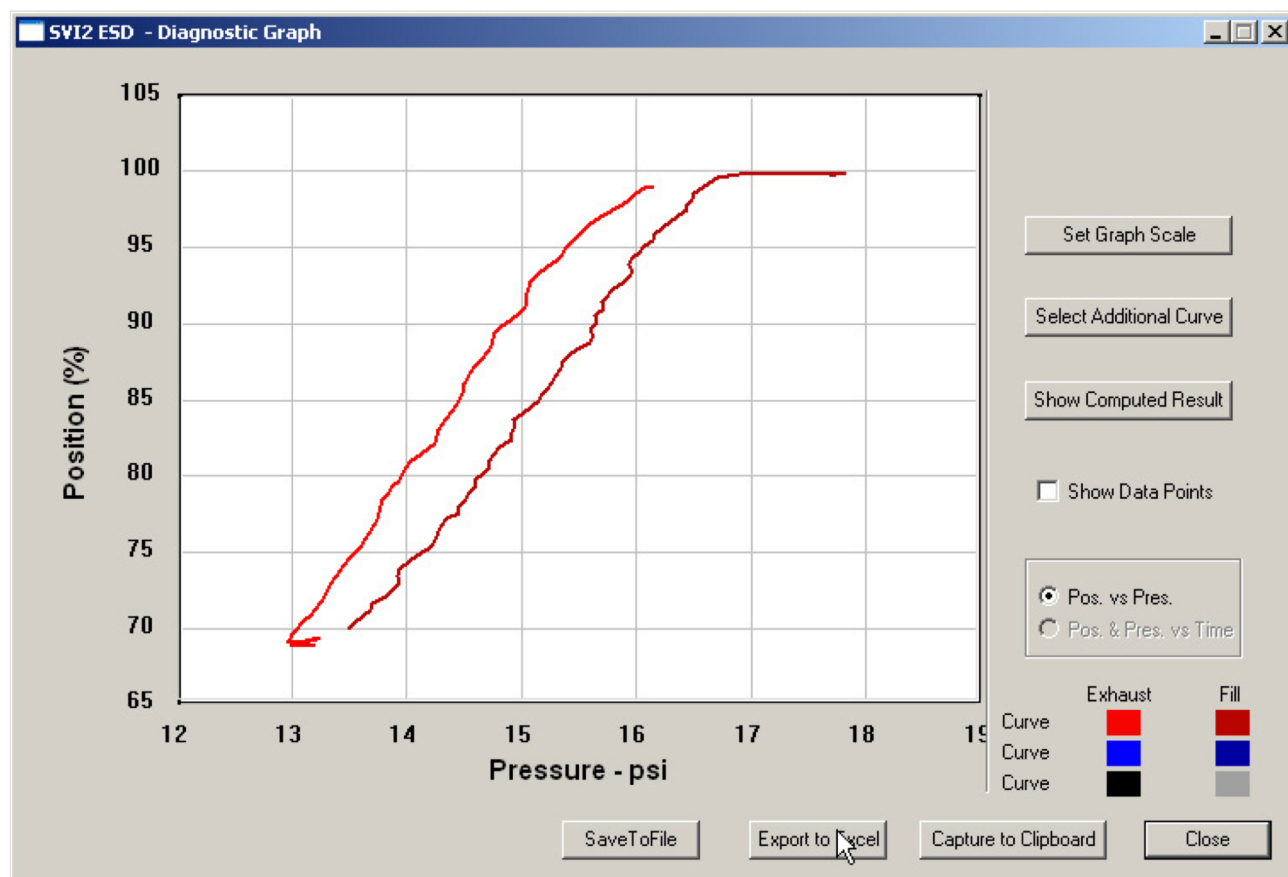

Figure 225 - Selecting Export to Excel
- Click **Export to Excel** (*Figure 225*).